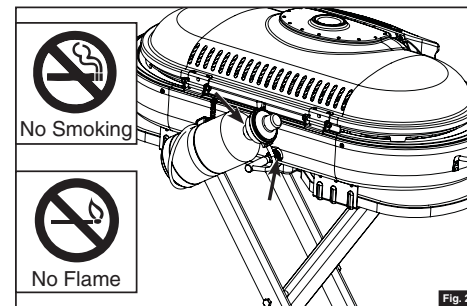

Fig. 24
- Apply a soap solution to the connections indicated with the arrows. (Fig. 24) If bubbles appear at these areas, a leak is indicated.